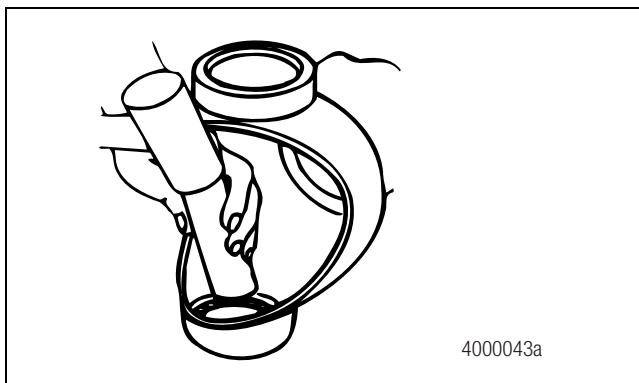

Figure 3.22
- A. Drive the socket plug and bushing toward the outside of the socket. Use a sleeve that is slightly smaller than the socket bore. Figure 3.22.